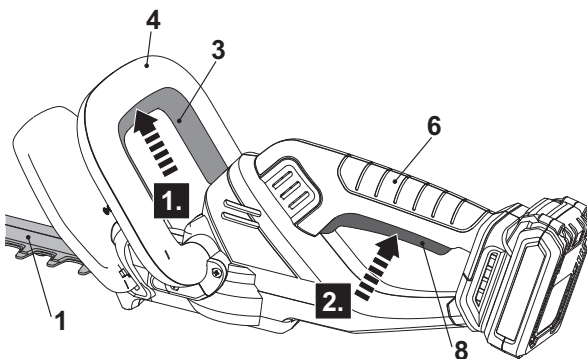

Fig. 5
1. Ensure the cutting device (blade) (1) does not touch any objects. Remove the blade cover (11) from the cutting device (blade) (1) before switching the product on.
2. Hold the product with one hand on the front handle (4) and the other hand on the rear handle (6).
3. Squeeze the safety switch (3) and hold it in position (Fig. 5, step 1).
4. Squeeze the on/off switch (8) to switch the product on (Fig. 5, step 2).
5. Release either the on/off switch (8) or the safety switch (3) to switch the product off.